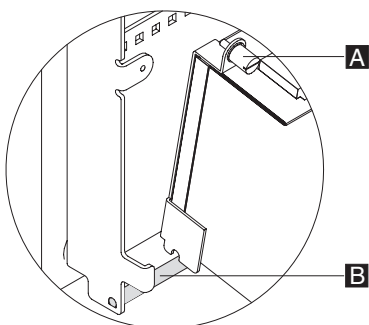

Figure 137. Attaching the power supply
7. Reinstall the power supply. Tighten the two thumbscrews **A** in Figure 137, to secure the power supply.